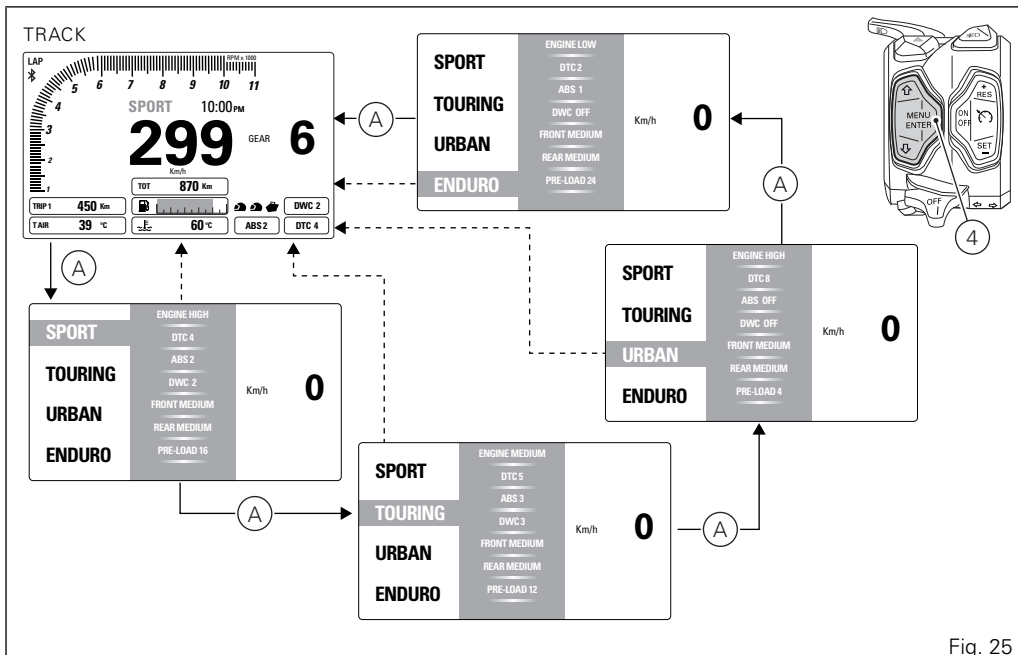

Fig. 25
Displayed information includes the values stored for each single Riding Mode. The stored settings may be the factory ones (Ducati default settings) or the ones customised by the owner. Any time CONFIRM MENU button (4) is pressed, the selected riding mode is highlighted together with the associated parameters (A, Fig. 25).